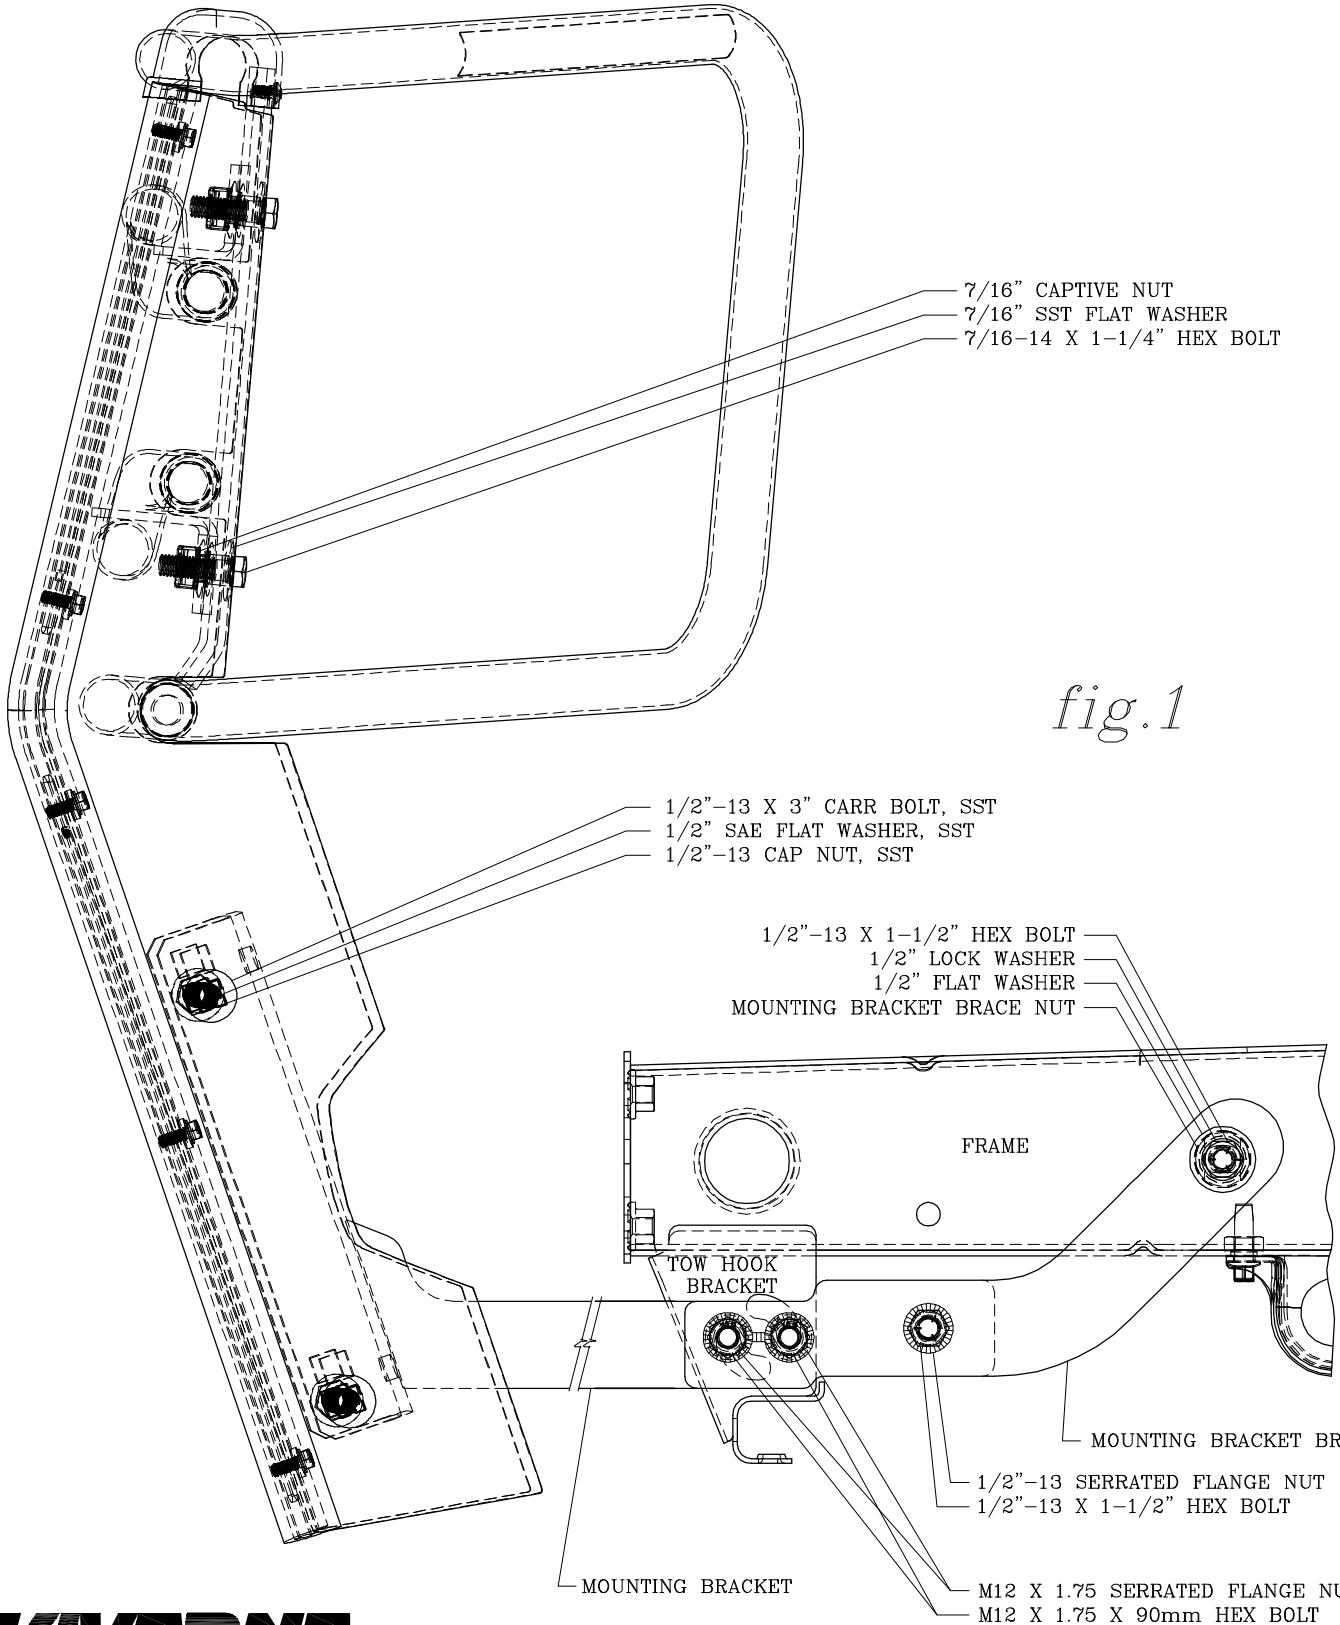

fig.1
### **REFER TO FIGS. 1, 2, 3 & 4 FOR GUARD ASSEMBLY INSTRUCTIONS 2-14**
9. LOWER THE RING ASSEMBLY (ITEM #1) DOWN BEHIND THE UPRIGHTS AND INSTALL IN THE SLOTS OF THE UPRIGHTS AS SHOWN IN FIG. 1 & 2. INSTALL THE 7/16"-14 X 1-1/4" HEX HEAD CAP SCREWS (ITEM #16) AND 7/16" FLAT WASHERS (ITEM #26). INTO THE 7/16"-14 CAPTIVE NUTS (ITEM #21) IN THE UPRIGHT MOUNTING PLATES. MAKE SURE THE UPRIGHTS ARE CENTERED AND PARALLEL WITH THE BARS IN THE RING AND TIGHTEN.